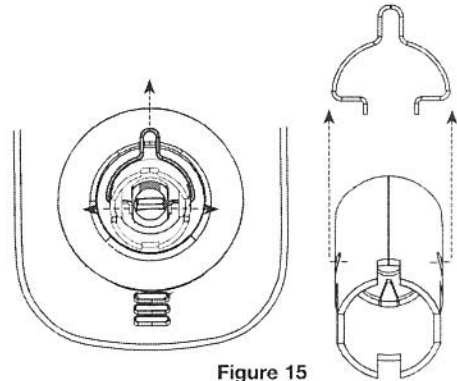

Figure 15
- A. **Once correct handing is determined**, remove the clip that has held the hub in its correct position by spreading clip ends to extract clip from shank as shown in Fig. 15.